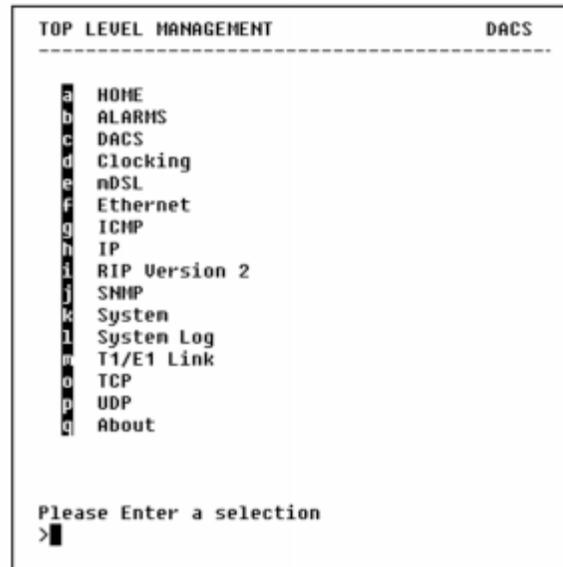

Figure 17. VT-100 Top Level Management window
- For the password, type **superuser**; the TOP LEVEL MANAGEMENT window then appears (see figure 17).